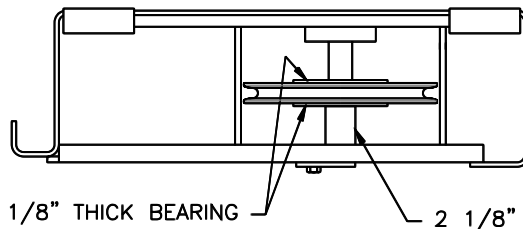

Fig 5 – Runway Single-Stack (typical for front of power runway and front & rear of idler)
- 8) Reinstall the idler runway sheaves with a 2 1/8" spacer and one plastic bearing above and below each sheave per **figure 5**.
- 9) Remove the front sheave pin from the power runway and reinstall with 2 1/8" long spacer from the hardware box, **Fig 5**.